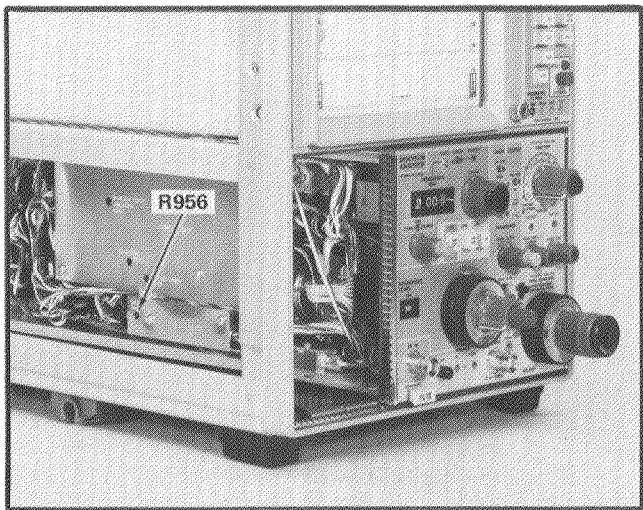

Fig. 4-13. Location of R956, calibrator output level adjustment.
d. Change the marker output of the time mark generator to 10 ns and locate the 1800 MHz marker. Adjust the Center Freq Upper Limit R1441 (Fig. 4-13) to center the 1800 MHz marker on the graticule. Decrease the FREQ SPAN/DIV to 2 MHz for the final adjustment of R1441. Note: Remember to approach the 1800 MHz FREQUENCY readout from the low side.
4) The calibrator output level can be adjusted by removing the left vertical plug-in unit and the oscilloscope left side panel to gain access to the 7L12 calibrator. Adjust R956 (Fig. 4-13) for an output level of −30 dBm (7.07 mV RMS).